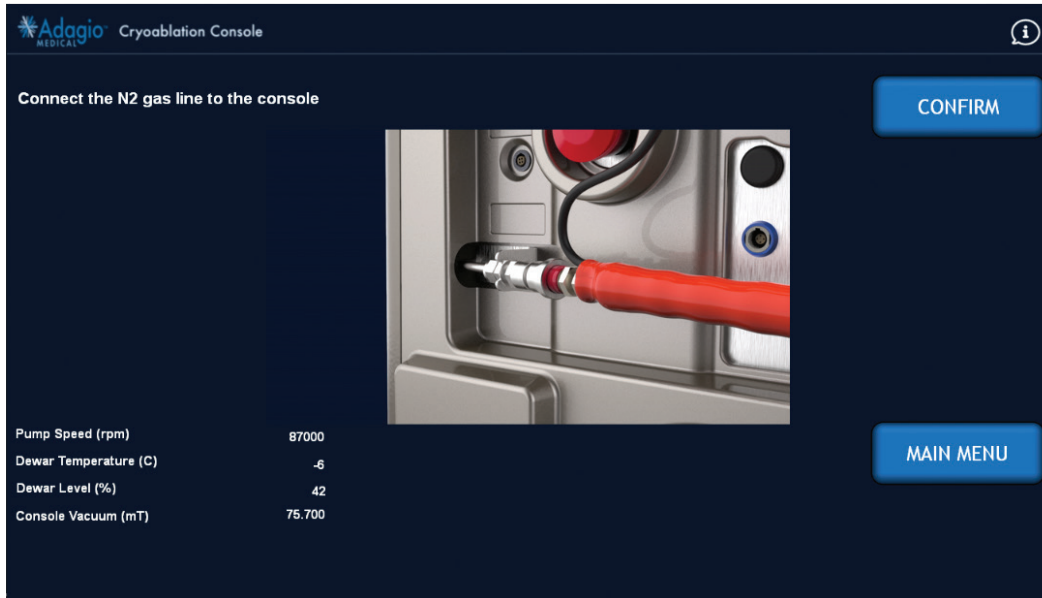
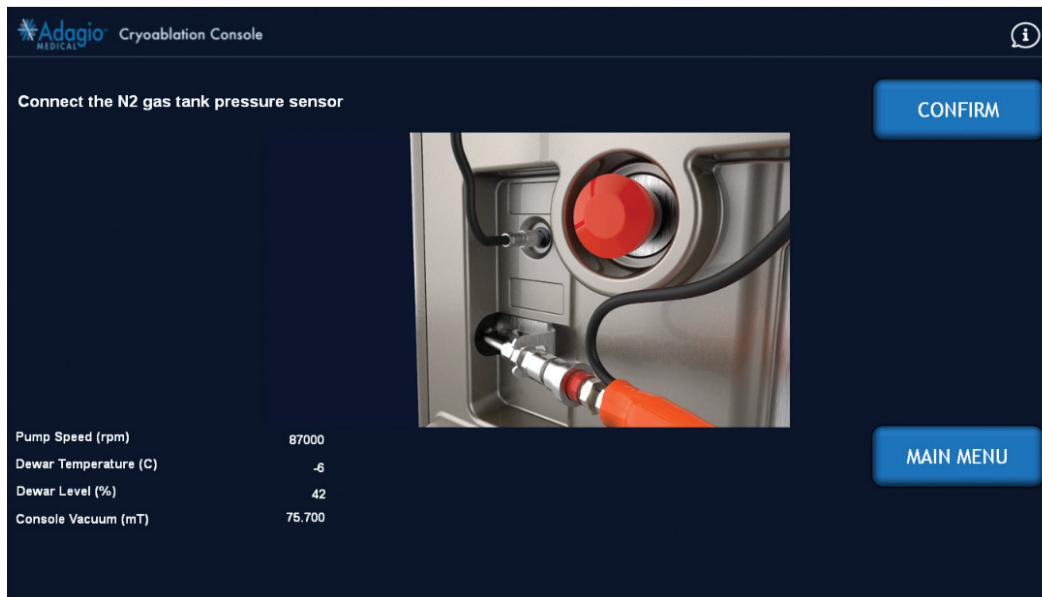

Figure 14 – Connect N2 Gas Line To The Console Screen Image
Figure 15 – Connect N2 Gas Tank Pressure Sensor Screen Image
2. **Connect the N2 Gas Line to the back of the Console.** As shown in *Figure 14* and on-screen animation, connect the pressurized N2 Gas Supply hose to the Console by connecting to the quick-connect port on the back of the Console. Also, connect the Tank Pressure transducer connector into the receptacle (*Figure 14* and *Figure 15*). Select “CONFIRM” upon completion.
3. **Connect the N2 gas tank pressure sensor to the Console** (*Figure 15*) and select “CONFIRM” upon completion. Do not force connect. Be sure pins and holes are aligned before pushing in to connect.